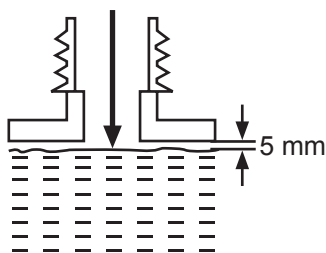

Fig. 14
- > Unscrew and remove the fuel tank cap (29).
- > Fill correctly mixed fuel/oil into the tank using a fuel funnel fitted with a filter to avoid debris entering the tank. Do not overfill. Leave a minimum 5 mm of space between the top of the fuel and the inside edge of the tank to allow for expansion (Fig. 14).